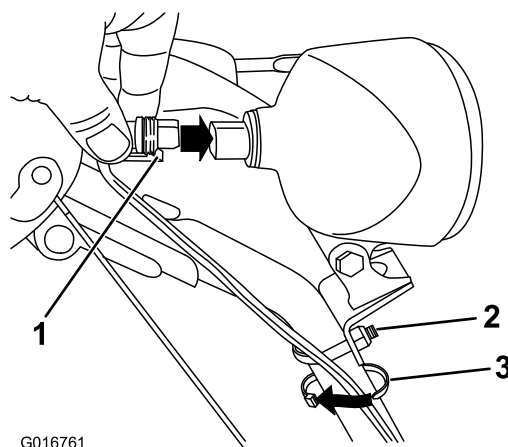

Figure 18
1. Insert the wire connector on the loose end of the wire straight into the back of the headlight until it is securely in place (Figure 18).
Note: Ensure that the plastic clip on the wire connector is on the bottom (Figure 18).
2. Secure a cable tie (from the loose-parts bag) around the wire and the handle about 2.5 cm (1 inch) below the U-bolt (Figure 18).